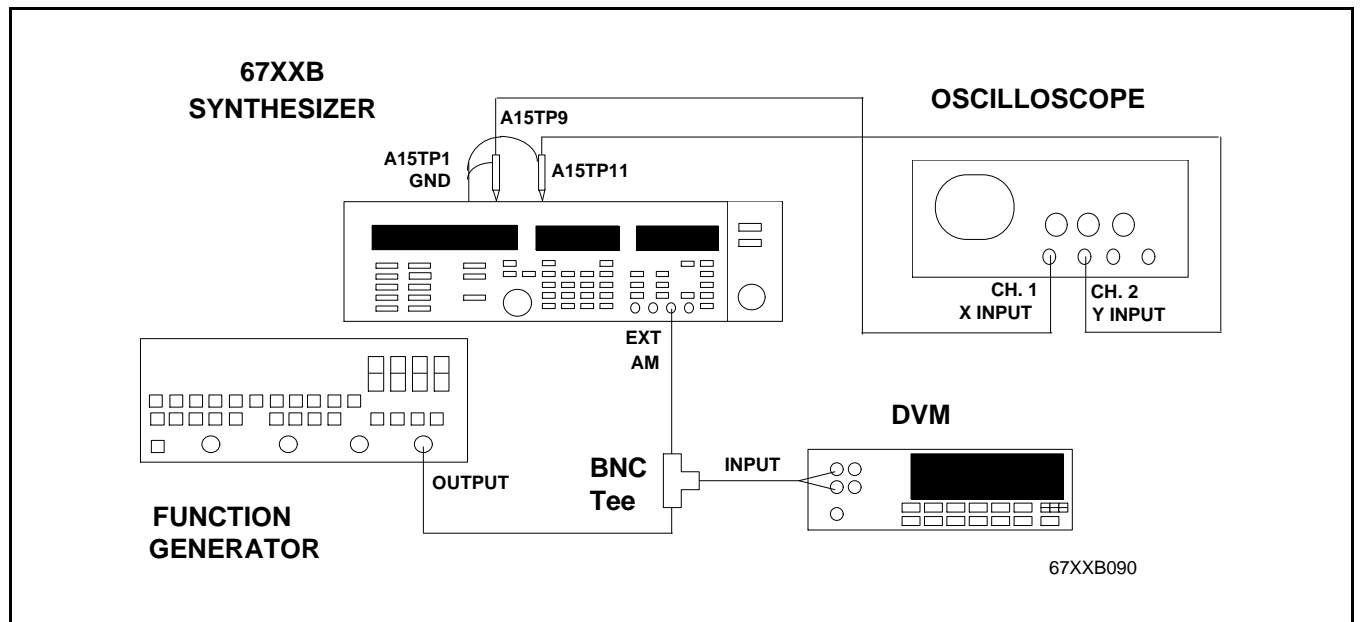

Figure 3-7. Test Equipment Setup for ALC Bandwidth Calibration
1. Connect the equipment, shown in Figure 3-7, as follows: